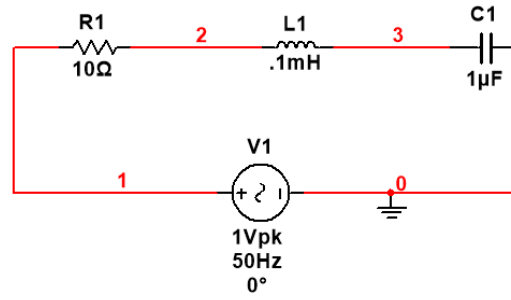

Fig1:
1. Construct Series Resonance circuit as shown in fig1 using Multisim simulation software.